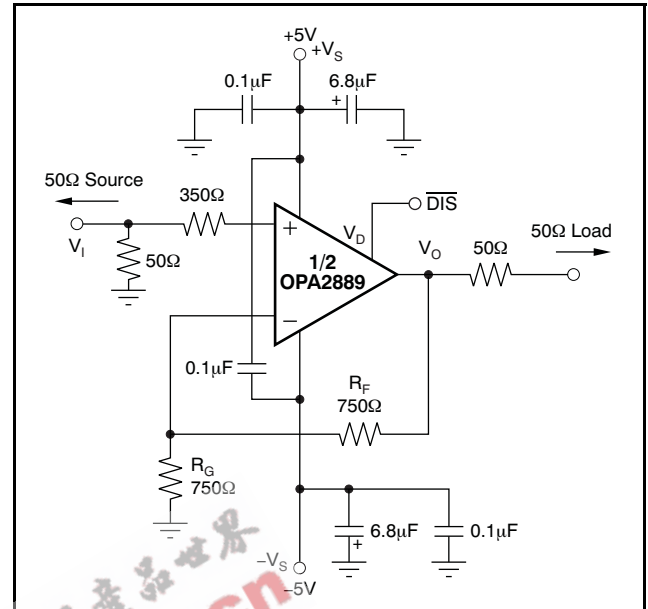
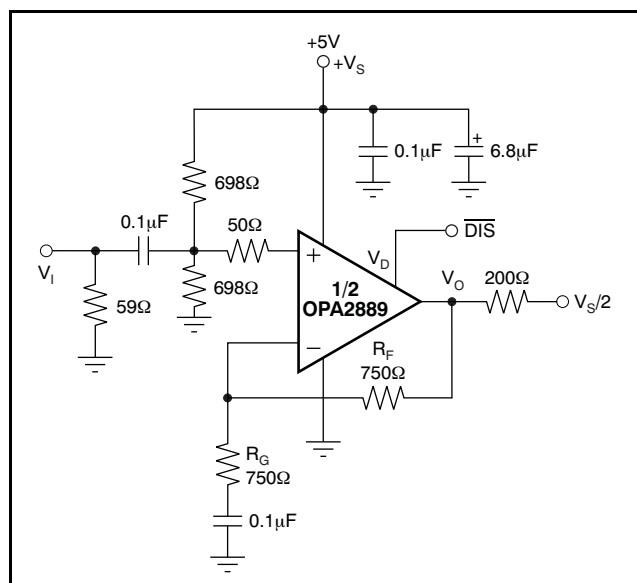
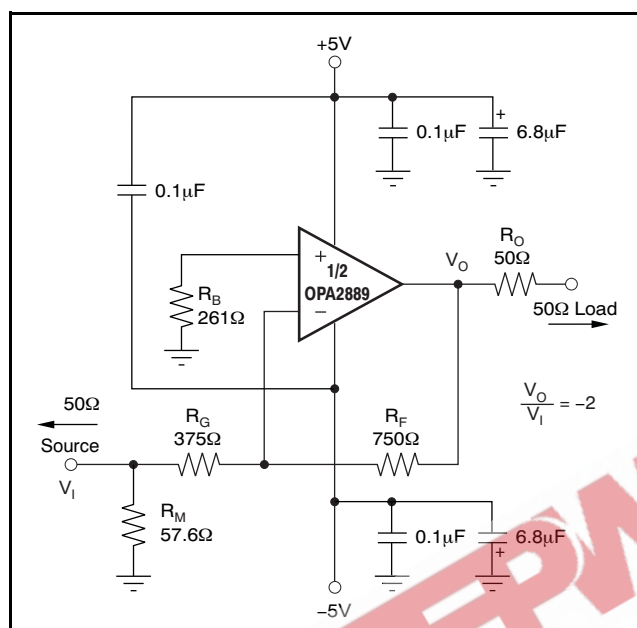

Figure 50. DC-Coupled, G = +2, Bipolar Supply, Specification and Test Circuit
Figure 51. DC-Coupled, G = +2, Single-Supply, Specification and Test Circuit
Figure 60. Gain of $-2V/V$ Example Circuit
At $T_A = +25^\circ C$, $G = +2V/V$, $R_F = 750\Omega$, and $R_L = 100\Omega$, unless otherwise noted. See Figure 51.
Figure 50 shows the dc-coupled, gain of +2V/V, dual power-supply circuit configuration used as the basis of the \pm 5V Electrical Characteristics and \pm 5V Typical Characteristics. This illustration is for one channel; the other channel is connected similarly. For test purposes, the input impedance is set to 50 Ω with a resistor to ground and the output impedance is set to 100 Ω . Voltage swings reported in the Electrical Characteristics are taken directly at the input and output pins, while output powers (dBm) are at the matched 50 Ω load. For the circuit of Figure 50, the total effective load will be 100 Ω || 1.5k Ω . The disable control line (MSOP-10 package only) is typically left open for normal amplifier operation. Two optional components are included in Figure 50. An additional resistor (350 Ω) is included in series with the noninverting input. Combined with the 25 Ω dc source resistance looking back towards the signal generator, this resistor gives an input bias current cancelling resistance that matches the 375 Ω source resistance seen at the inverting input (see the DC Accuracy and Offset Control section). In addition to the usual power-supply decoupling capacitors to ground, a 0.1 μ F capacitor is included between the two power-supply pins. In practical printed circuit board (PCB) layouts, this optional-added capacitor typically improves the 2nd-harmonic distortion performance by 3dB to 6dB.
Figure 51 illustrates the ac-coupled, gain of +2V/V, single-supply circuit configuration used as the basis of the +5V Electrical Characteristics and +5V Typical Characteristics. Though not a rail-to-rail design, the OPA2889 requires minimal input and output voltage headroom compared to other very wideband voltage-feedback op amps. It delivers a 2.8V_{PP} output swing on a single +5V supply with > 50MHz bandwidth. The key requirement of broadband single-supply operation is to maintain input and output signal swings within the usable voltage ranges at both the input and the output. The circuit of Figure 51 establishes an input midpoint bias using a simple resistive divider from the +5V supply (two 698 Ω resistors). Separate bias networks would be required at each input. The input signal is then ac-coupled into the midpoint voltage bias. The input voltage can swing to within 1.1V of either supply pin, giving a 2V_{PP} input signal range centered between the supply pins. The input impedance matching resistor (59 Ω) used for testing is adjusted to give a 50 Ω input load when the parallel combination of the biasing divider network is included.
A good rule of thumb is to target the parallel combination of R_F and R_G (see Figure 50) to be less than approximately 400Ω. The combined impedance $R_F \parallel R_G$ interacts with the inverting input capacitance, placing an additional pole in the feedback network and thus, a zero in the forward response. Assuming a 2pF total parasitic on the inverting node, holding $R_F \parallel R_G < 400\Omega$ keeps this pole above 160MHz. By itself, this constraint implies that the feedback resistor R_F can increase to several kΩ at high gains. This increase in resistor size is acceptable as long as the pole formed by R_F and any parasitic capacitance appearing in parallel is kept out of the frequency range of interest.
Voltage-feedback op amps exhibit decreasing closed-loop bandwidth as the signal gain increases. In theory, this relationship is described by the Gain Bandwidth Product (GBP) shown in the Electrical Characteristics. Ideally, dividing GBP by the noninverting signal gain (also called the Noise Gain, or NG) predicts the closed-loop bandwidth. In practice, this principle only holds true when the phase margin approaches 90°, as it does in high gain configurations. At low gains (increased feedback factors), most amplifiers exhibit a more complex response with lower phase margin. The OPA2889 is compensated to give a slightly peaked response in a noninverting gain of 2V/V (see Figure 50). This compensation results in a typical gain of +2V/V bandwidth of 60MHz, far exceeding that predicted by dividing the 75MHz GBP by 2. Increasing the gain causes the phase margin to approach 90° and the bandwidth to more closely
The frequency response in a gain of +2V/V may be modified to achieve exceptional flatness simply by increasing the noise gain to 2.5V/V. One way to modify the response without affecting the +2V/V signal gain, is to add a 750Ω resistor across the two inputs, as shown in the circuit of Figure 50. A similar technique may be used to reduce peaking in unity-gain (voltage follower) applications. For example, by using a 750Ω feedback resistor along with a 750Ω resistor across the two op amp inputs, the voltage follower response is similar to the gain of +2V/V response of Figure 51. Reducing the value of the resistor across the op amp inputs further limits the frequency response due to increased noise gain.
The OPA2889 is a general-purpose, wideband, voltage-feedback op amp; therefore, all of the familiar op amp application circuits are available to the designer. Inverting operation is one of the more common requirements and offers several performance benefits. See Figure 60 for a typical inverting configuration where the I/O impedances and signal gain from Figure 50 are retained in an inverting circuit configuration.
considered in Figure 60. The amplifier output, however, now sees the 100Ω feedback resistor in parallel with the external load. In general, the feedback resistor should be limited to the 200Ω to 1.5kΩ range. In this case, it is preferable to increase both the R_F and R_G values (see Figure 60), and then achieve the input matching impedance with a third resistor (R_M) to ground. The total input impedance becomes the parallel combination of R_G and R_M .
The second major consideration, touched on in the previous paragraph, is that the signal source impedance becomes part of the noise gain equation and influences the bandwidth. For the example in Figure 60, the R_M value combined in parallel with the external 50Ω source impedance yields an effective driving impedance of $50\Omega \parallel 57.6\Omega = 26.7\Omega$. This impedance is added in series with R_G for calculating the noise gain (NG). The resulting NG is 2.86V/V for Figure 60, as opposed to only 2V/V if R_M could be eliminated as discussed above. Therefore, the bandwidth is slightly lower for the gain of $-2V/V$ circuit of Figure 60 than for the gain of $+2V/V$ circuit of Figure 50.
The third important consideration in inverting amplifier design is setting the bias current cancellation resistor on the noninverting input (R_B). If this resistor is set equal to the total dc resistance looking out of the inverting node, the output dc error, as a result of the input bias currents, is reduced to (Input Offset Current) $\times R_F$. If the 50Ω source impedance is dc-coupled in Figure 60, the total resistance to ground on the inverting input is 402Ω.
The OPA2889 provides good distortion performance into a 200Ω load on ±5V supplies. Relative to alternative solutions, it provides exceptional performance into lighter loads and/or operating on a single +5V supply. Generally, until the fundamental signal reaches very high frequency or power levels, the 2nd-harmonic dominates the distortion with a negligible 3rd-harmonic component. Focusing then on the 2nd-harmonic, increasing the load impedance improves distortion directly. Remember that the total load includes the feedback network; in the noninverting configuration (see Figure 50), this total is the sum of R_F + R_G, while in the inverting configuration it is just R_F. Also, providing an additional supply-decoupling capacitor (0.1μF) between the supply pins (for bipolar operation) improves the 2nd-order distortion slightly (3dB to 6dB). Operating differentially also lowers 2nd-harmonic distortion terms (see the plot on the front page).
Evaluating these two equations for the OPA2889 circuit and component values (see Figure 50) gives a total output spot noise voltage of 18.2nV/√Hz and a total equivalent input spot noise voltage of 9.1nV/√Hz. This total includes the noise added by the bias current cancellation resistor (350Ω) on the noninverting input. This total input-referred spot noise voltage is slightly higher than the 8nV/√Hz specification for the op amp voltage noise alone. This result is the case as long as the impedances appearing at each op amp input are limited to the previously recommend maximum value of 400Ω. Keeping both (R_F || R_G) and the noninverting input source impedance less than 400Ω satisfies both noise and frequency response flatness
considerations. Because the resistor-induced noise is relatively negligible, additional capacitive decoupling across the bias current cancellation resistor (R_B) for the inverting op amp configuration of Figure 60 is not required.
The balanced input stage of a wideband voltage-feedback op amp allows good output dc accuracy in a wide variety of applications. The power-supply current trim for the OPA2889 gives even tighter control than comparable amplifiers. Although the high-speed input stage does require relatively low $0.75\mu\text{A}$ input bias current, the close matching between them may be used to reduce the output dc error caused by this current. The total output offset voltage may be reduced by matching the dc source resistances appearing at the two inputs. This matching reduces the output dc error resulting from the input bias currents to the offset current times the feedback resistor. Evaluating the configuration of Figure 50, and using worst-case $+25^\circ\text{C}$ input offset voltage and current specifications, gives a worst-case output offset voltage equal to: